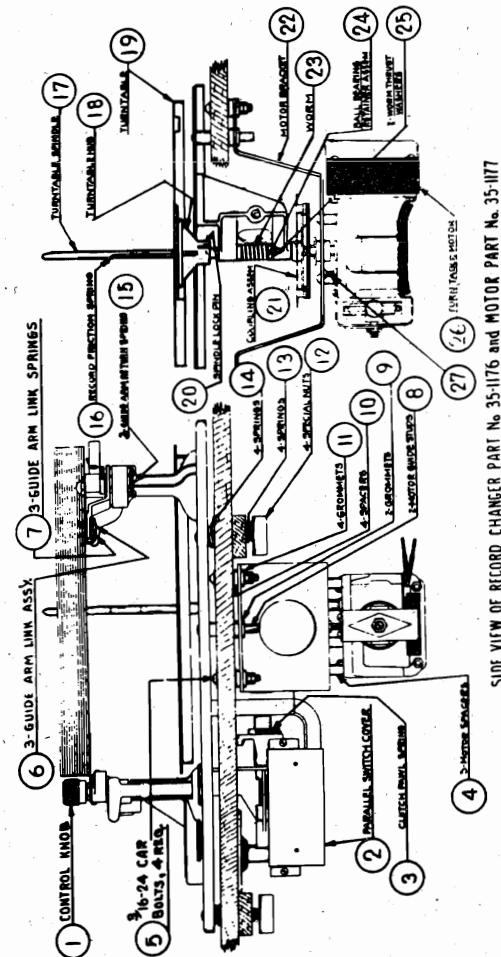

FIGURE 2
3. Check record friction spring (16) Fig. 2 for tension. This spring should protrude far enough from the shaft to hold the top record from slipping when in the playing position. This spring when adjusted properly to hold a record, should also allow a 10" record to fall freely onto the turntable.
If motor runs too fast or slow, the governor adjustment screw (27) Fig. 2 on the top side of the governor should be screwed in or out slightly as required. To do this, loosen the lock nut and turn screw, then retighten lock nut.
1. Loosen the two set screws holding the motor coupling (21) Fig. 2 to the turntable shaft.
2. Loosen the two screws holding the turntable drive worm (23) Fig. 2 to the turntable shaft, then lift out turntable and shaft.
4. The record friction spring (16) Fig. 2 on the turntable shaft can be removed by pushing the hub downward toward the heavy end of the shaft — the spring can then be removed. If it is desired to increase the record friction on spring, bend upward the lower section of the spring which contacts with the bottom surface of the hub. To decrease the record friction against the spring, bend the spring downward.